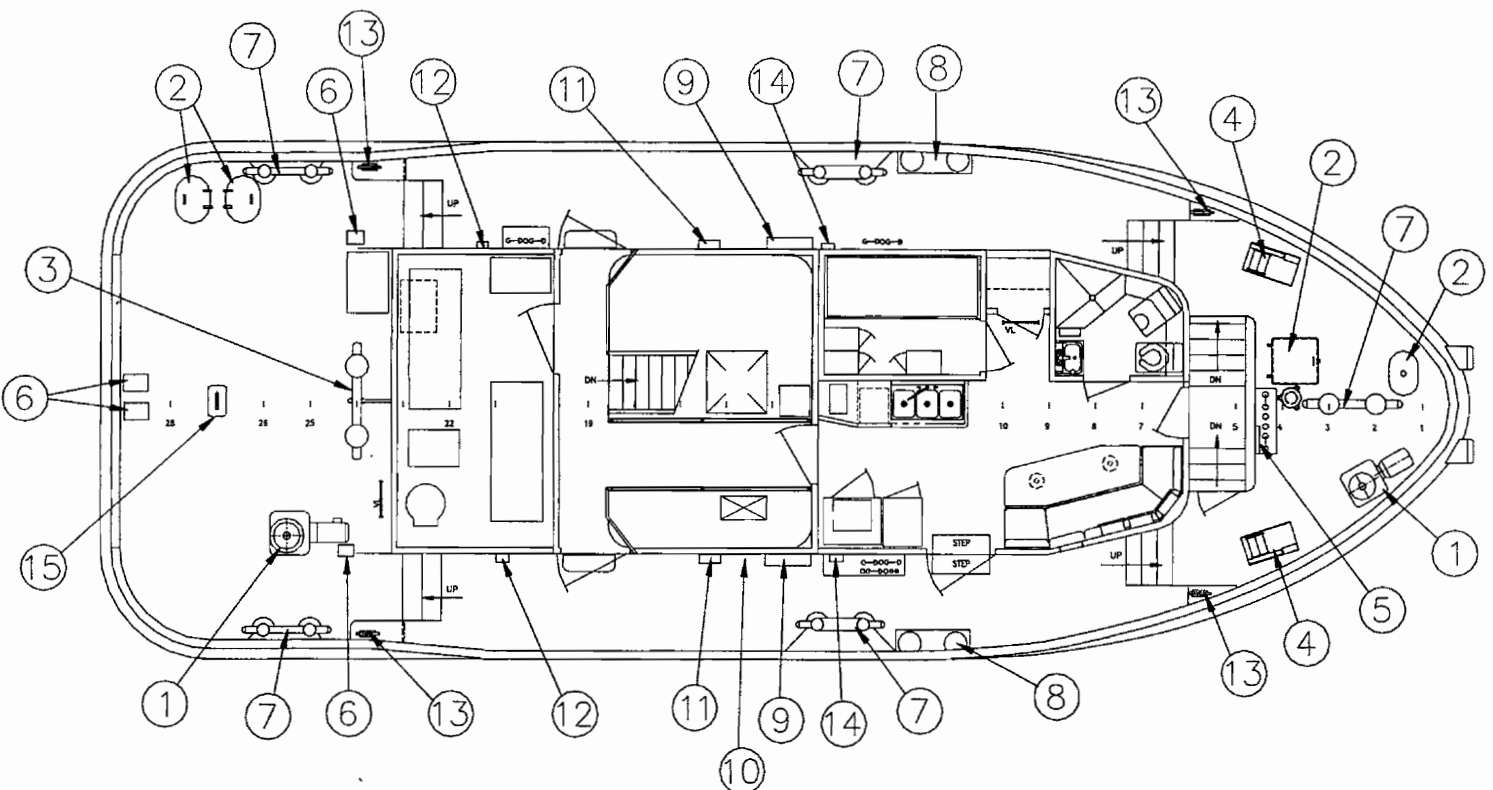

Figure 1-16. Main Deck Equipment and Components
- (h) Main Deck Equipment and Components. The deck equipment and components are discussed in the paragraphs that follow. See Figure 1-16 for a plan view of the main deck.